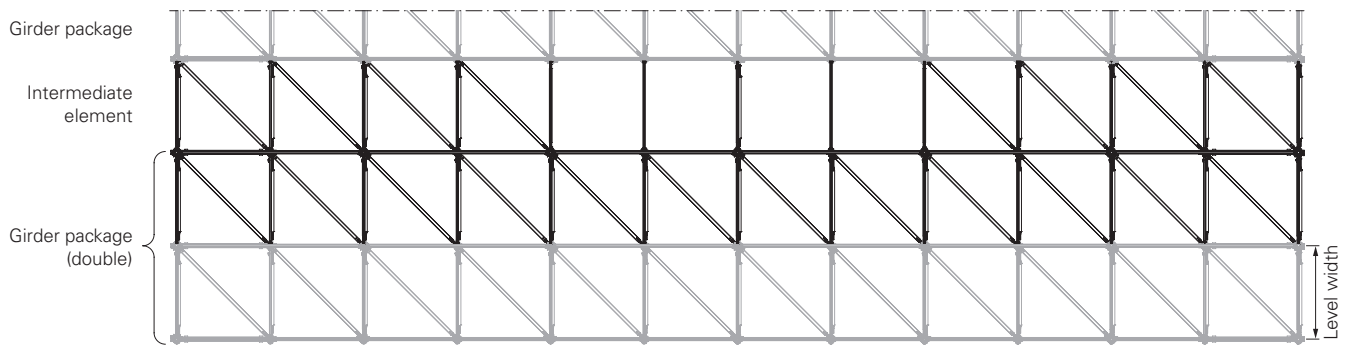

Fig. B2.03b
- With an even number of packages, a double girder package is mounted in the edge area. (Fig. B2.03b)